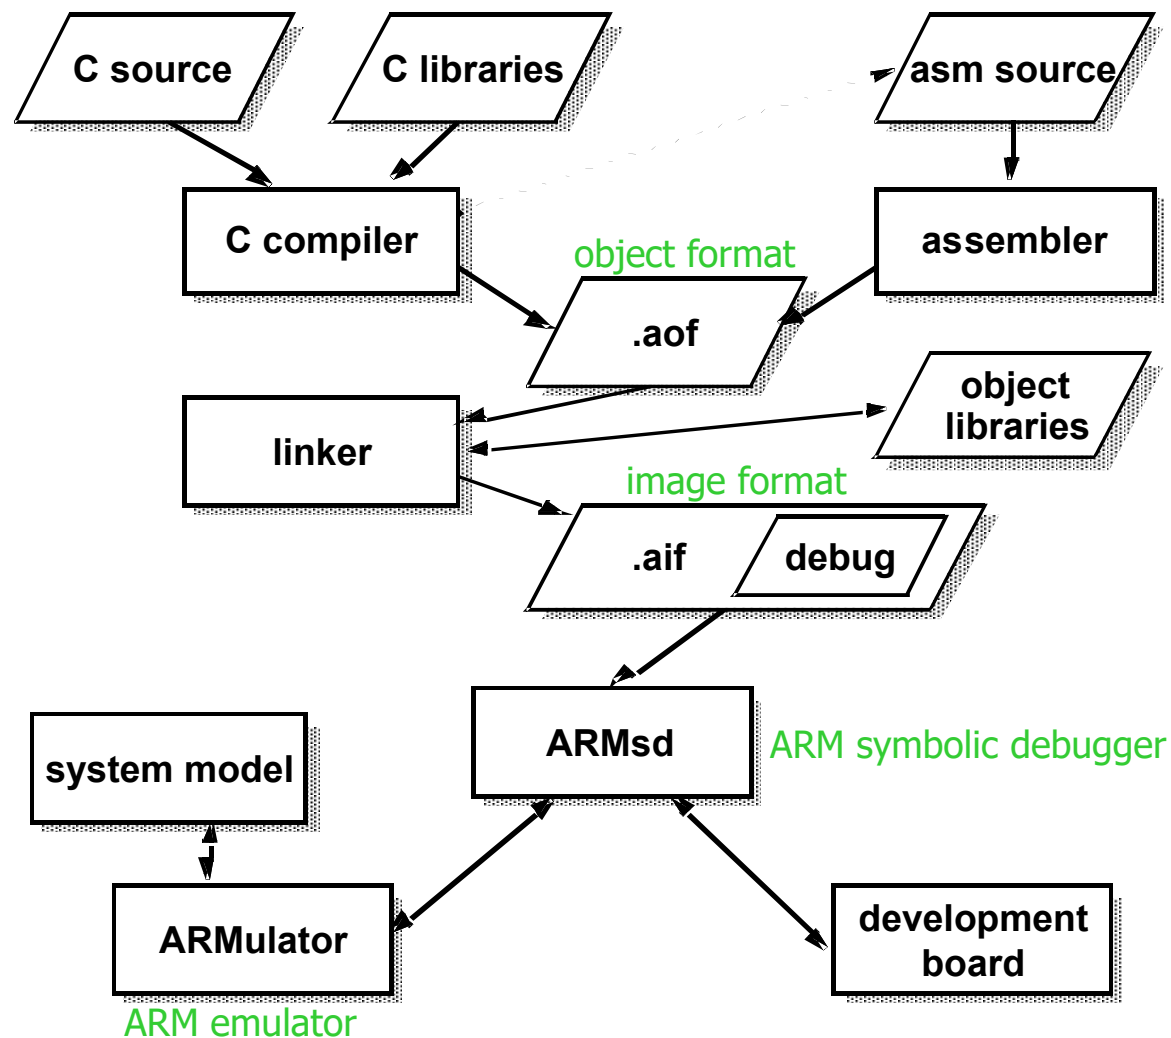

Fig. 2.4 The structure of the ARM cross-development toolkit
- ◆ The overall structure of the ARM cross-development toolkit is shown in Fig. 2.4